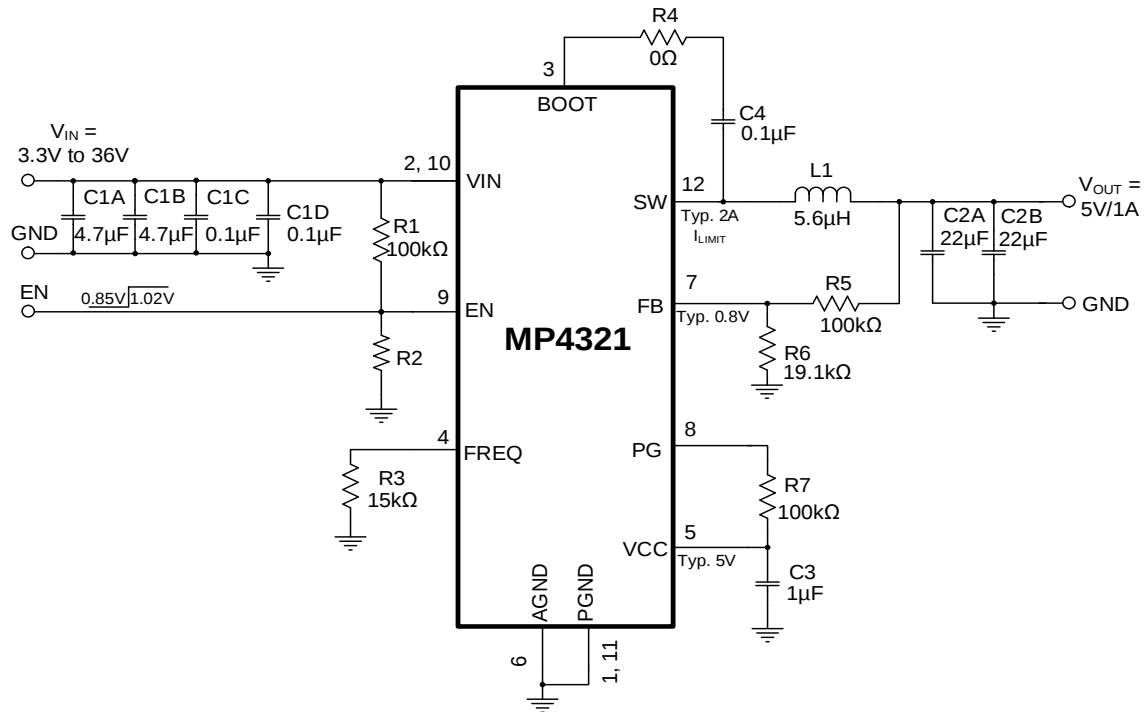

Figure 11: Typical Application Circuit with Bootstrap Resistor (R4) ($V_{OUT} = 5V$, $f_{SW} = 2.2MHz$)
14) The recommended PCB layout is based on Figure 11 on page 35.